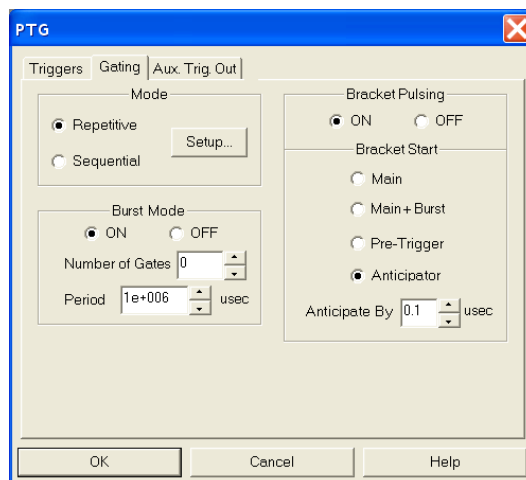

Figure 176. PTG/Gating tab
7. Click on the **Gating** tab (Figure 176).